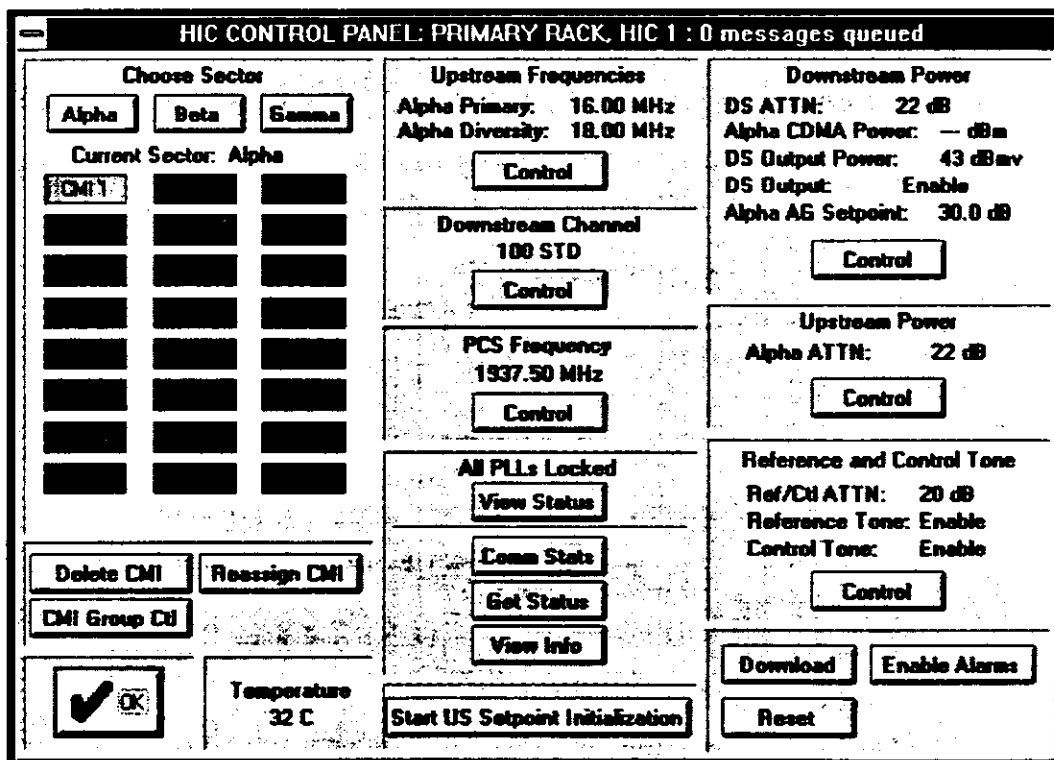

Figure 3-17. Typical HIC CONTROL PANEL Dialog
- e. Set the HIC CONTROL PANEL dialog (Figure 3-17) controls as follows:
- e. At HIC CONTROL PANEL dialog (Figure 3-17), double-click on appropriate CMI (CMI 1 through CMI 24).
- a. At HIC CONTROL PANEL dialog (Figure 3-17), verify that icon of CMI to be measured is green (active, normal operation).